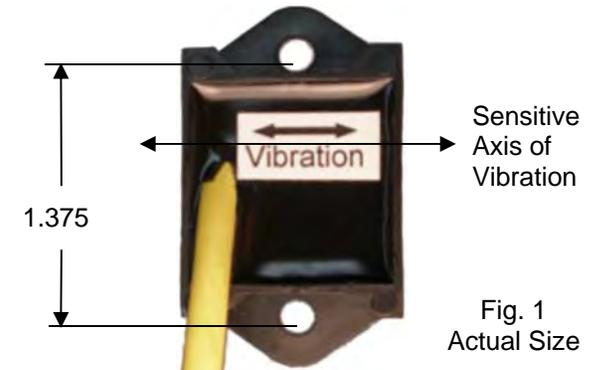
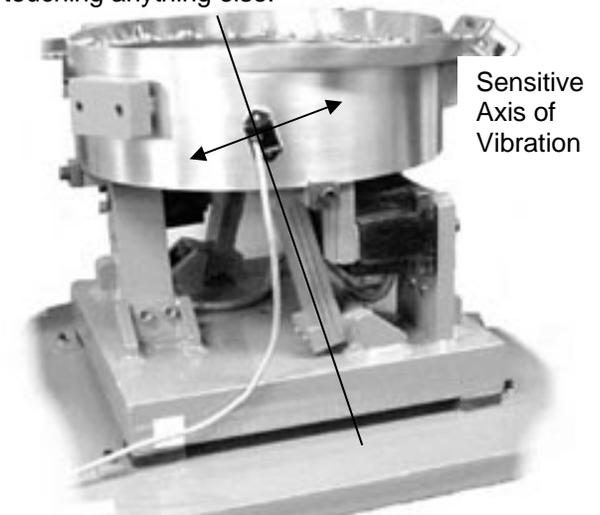

Fig. 1
Fig. 2 The arrow shows the direction of vibration which is at a right angle to the spring pack.
A. ORIENT THE SENSOR so that its sensitive axis is in the same direction as the vibration of the feeder. The arrow in figure 1 shows the sensor’s sensitive axis. Align the sensitive axis of the sensor in the same direction as the vibration (see figure 2). The sensor must be oriented correctly for proper operation.
- 6) Remove the vibration sensor from its protective packaging. Remove the liner from the adhesive backing. Avoid touching the tape. Align the sensor as shown in figures 1 and 2. Apply the vibration sensor to the prepared area of the feeder. Press the sensor very firmly onto the feeder surface for at least 10 seconds.
Use a cable tie and an adhesive-backed mount to attach the sensor cable to the side of the drive base. See Figure 2. Clean the mounting area before applying the adhesive-backed mount.